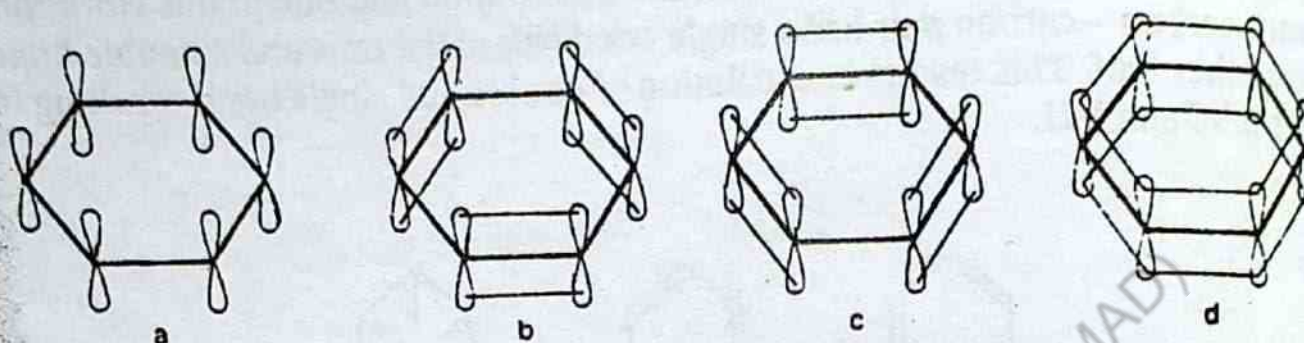

Fig. 7.7
carbon atom. These six  $2p_z$  electrons or orbitals on each carbon atom are perpendicular to the plane of the ring and parallel to each other as shown in figure 7.7 (a).
The electrons in these  $p$ -orbitals can be paired in two ways (as shown in figure 7.7 b,c) and since the carbon-carbon bond lengths are all  $1.39 \text{ \AA}$ , each orbital overlaps its neighbour equally and, therefore, all the six can be regarded as forming a single molecular orbital (M O) embracing all the six carbon atoms as shown in figure 7.7 d.
**Modern Representation of Benzene Structure:—** The molecular orbital representation of benzene as shown in figure 7.7 a and d are useful for understanding the high stability of the benzene ring but inconvenient for normal use. Two symbols are at present commonly used to represent the benzene molecule. These are: (1) A regular hexagonal with an inscribed circle and (2) A hexagonal with alternate single and double bonds. These are shown in Figure 7.8.
**Electrophilic Substitution Reactions:—** If we look again at the figure 7.7 a, d we will observe that there is a cloud of  $\pi$ -electrons above and below the